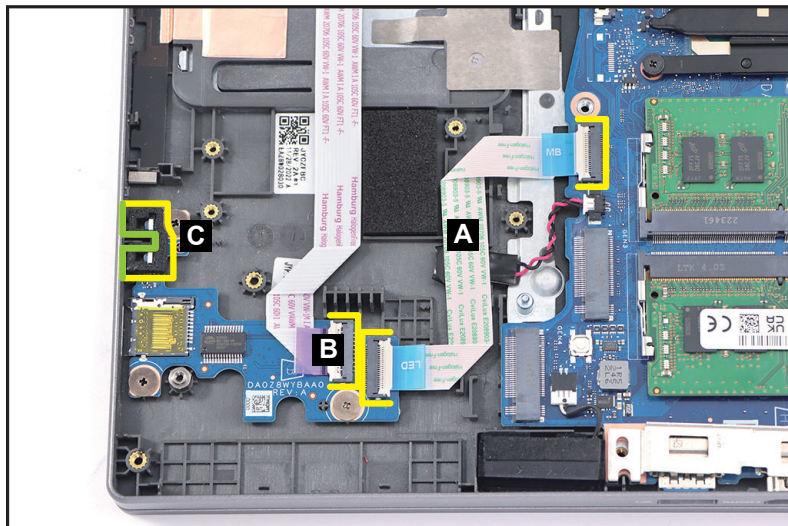

Figure 1-28. Card Reader Board Removal
1. Disconnect the card reader board FFC (A) from the mainboard and card reader board connectors (Figure 1-28).
2. Disconnect the card reader FFC from the card reader board connector (B) (Figure 1-28).
3. Remove the card reader board rubber (C) (Figure 1-28).